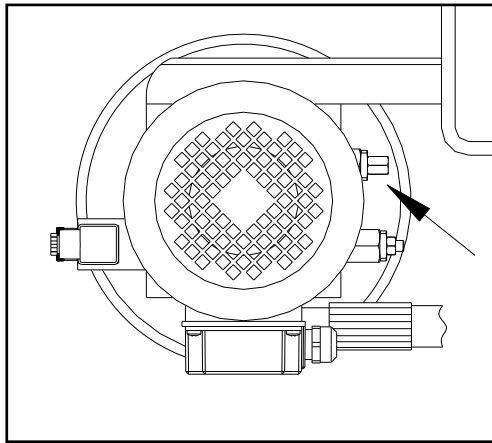

Fig. 11
- ◆ The maximum pressure valve (*Fig. 11*), located on the hydraulic oil power unit, will trip if the lift is overloaded.